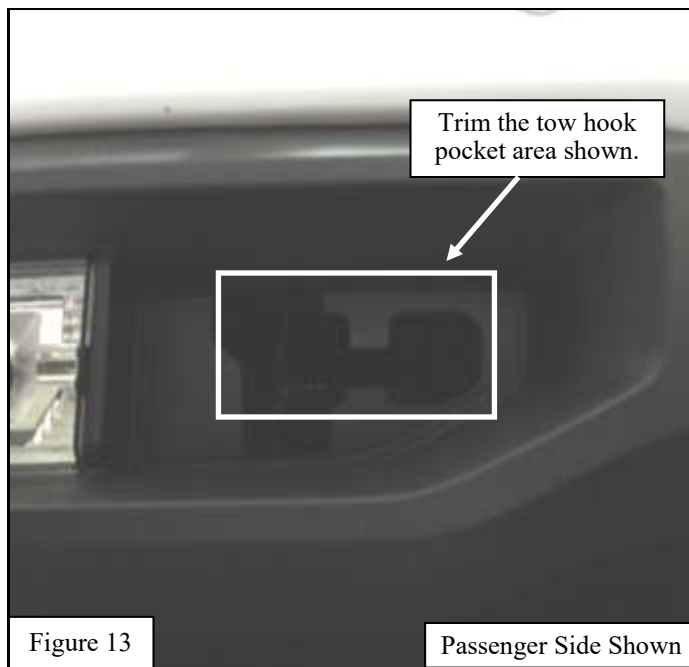

Figure 13
20. Carefully trim the factory tow hook pocket area to fit the Lower Mounting Brackets (Items 2-3). See **Figure 13** for reference.